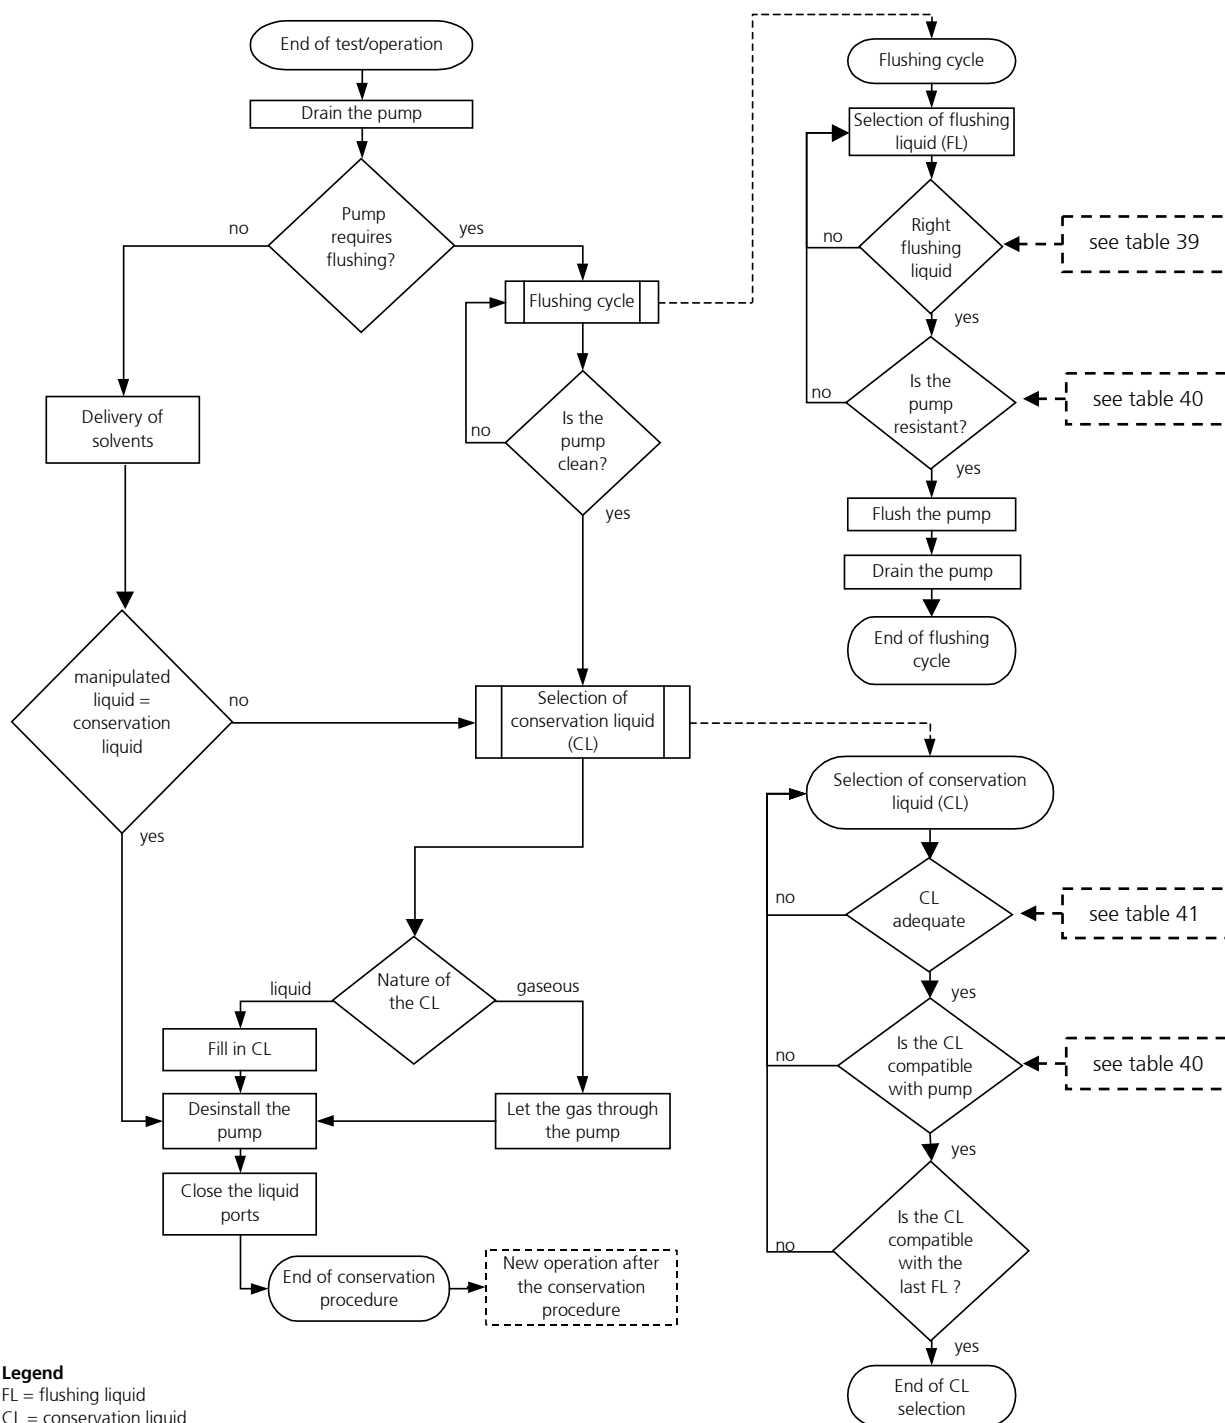

figure 25
*Remark:* This diagram is repeated as a part of the figure 25 (shutdown procedure of the micro annular gear pump).